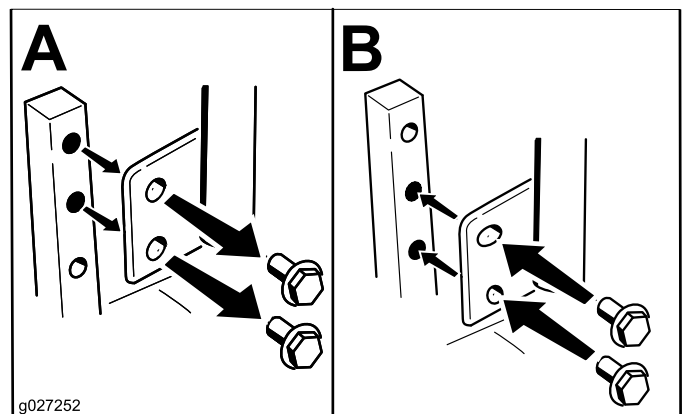

Figure 20
The motion-control levers can be adjusted higher or lower for maximum operator comfort (Figure 20).
- Loosen the lower bolt just enough to pivot the control lever fore or aft (Figure 20). Tighten both bolts to secure the control in the new position.